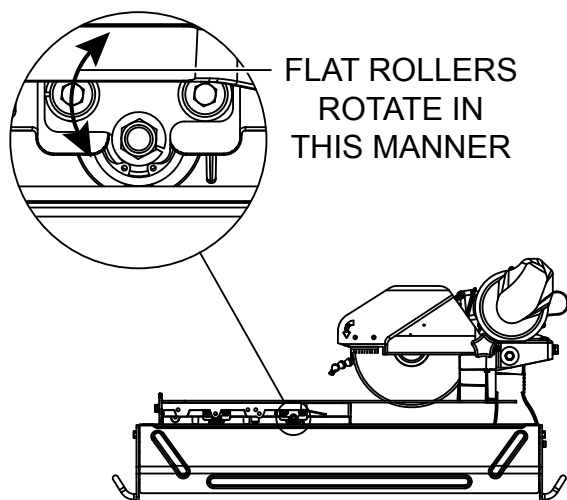

Figure 29. Flat Roller Rotation
2. Loosen the socket bolts on the flat roller plate so that the roller can swing freely about one bolt. see Figure 29. Do this for both flat roller plates.